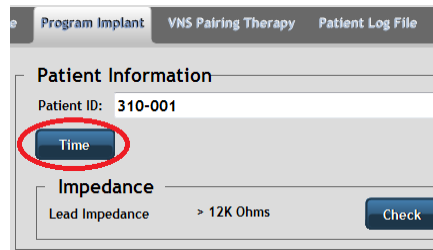

Figure 4.8: Time Button
- a. Press the **Time** button (circled in Figure 4.8:).